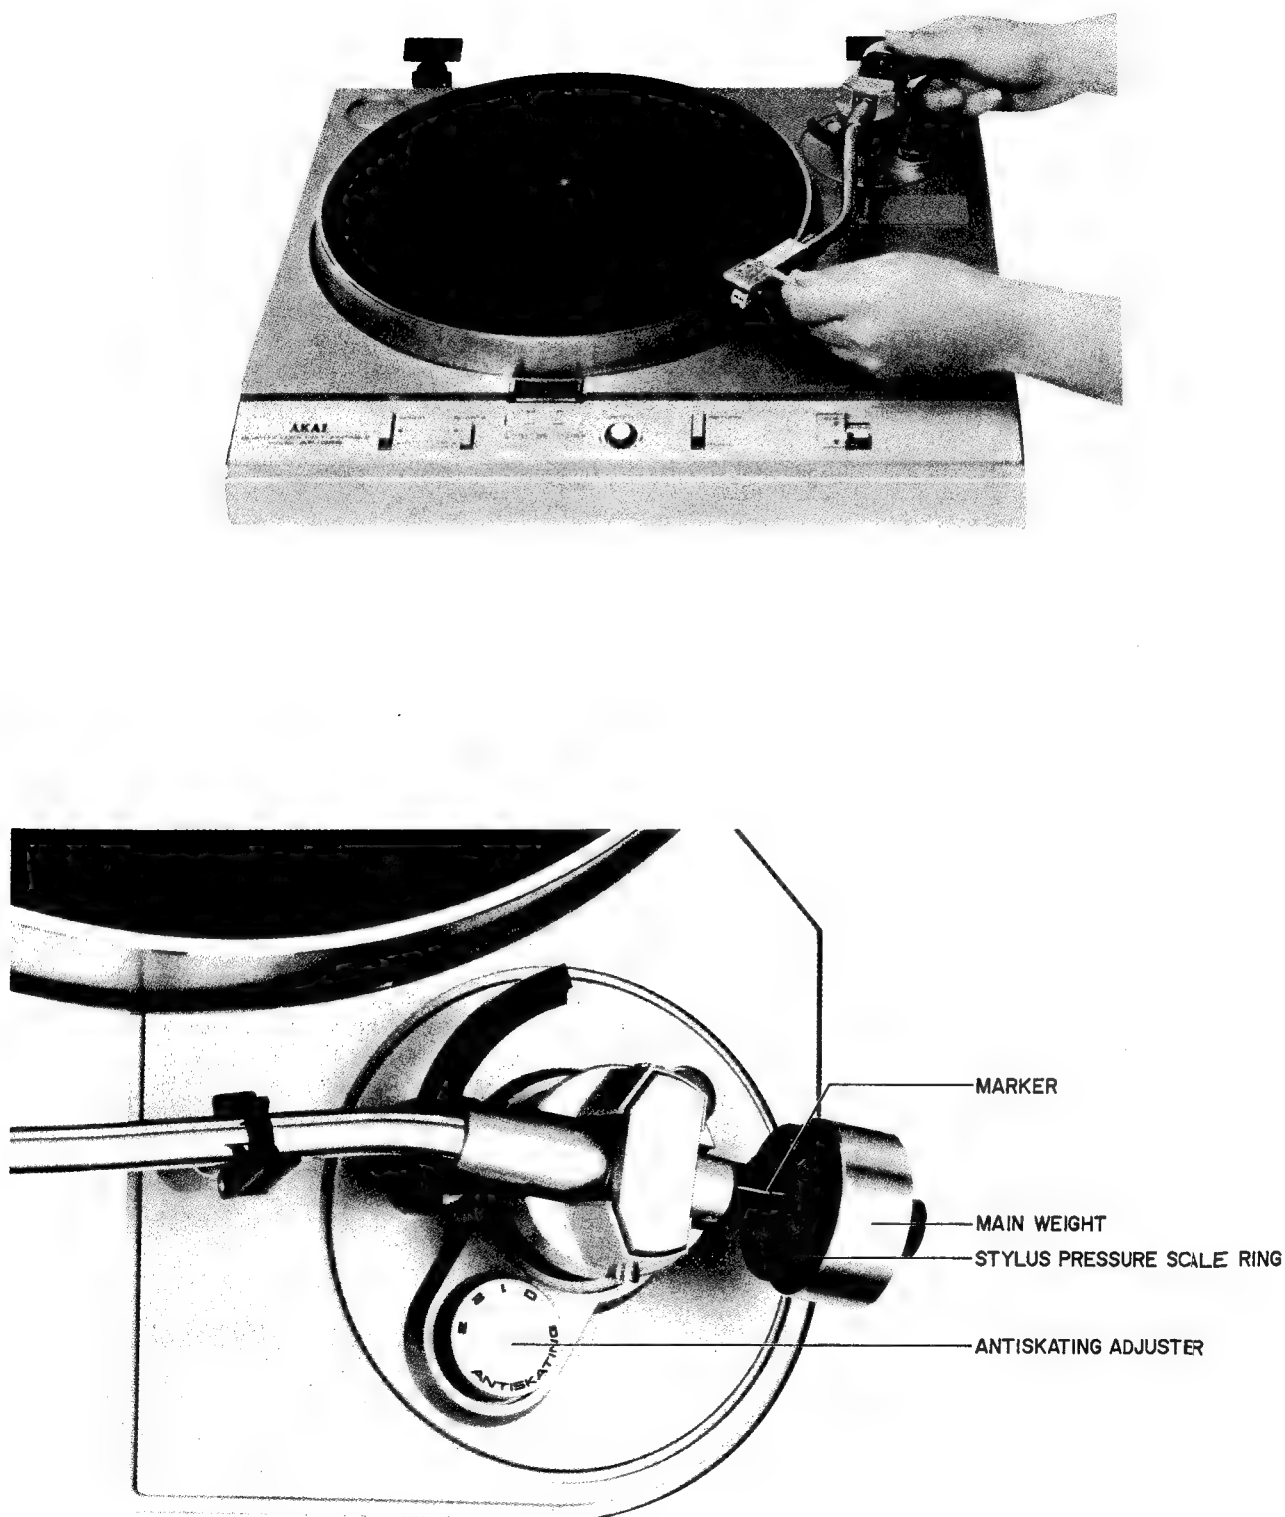

Fig. 6 Stylus Pressure Adjustment
- 5) Without moving the Main Weight, turn only the Stylus Pressure Scale Ring to match the "0" mark with the marker on the weight shaft. (Refer to Fig. 6.)